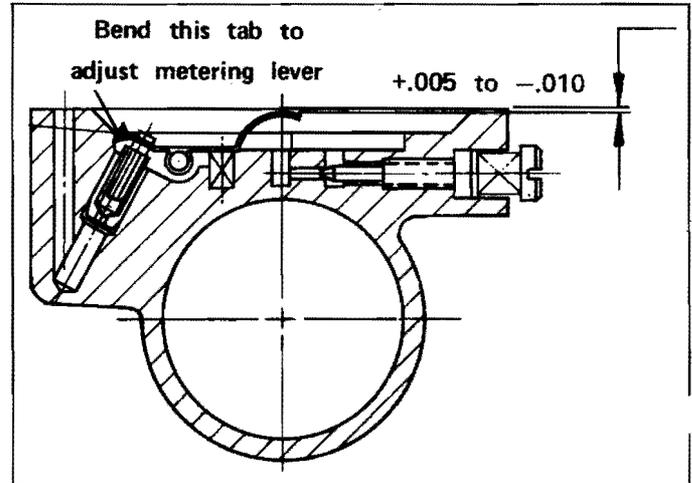

FIG. 6
1. Diaphragm lever set too high	Set flush with main body casting (Fig. 6)
2. Metering lever set too low	Set flush with bases on chamber floor (Fig. 6).